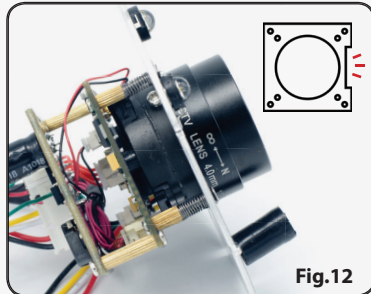

Fig.12
Important! Please make sure the LED board and the sensor board are aligned correctly! (**Fig.12**)
Step 9-2: The sensor board has a cut-out on the right side. The LEDs on the LED board are on top while the brightness sensor is at the bottom (**Fig.12**)